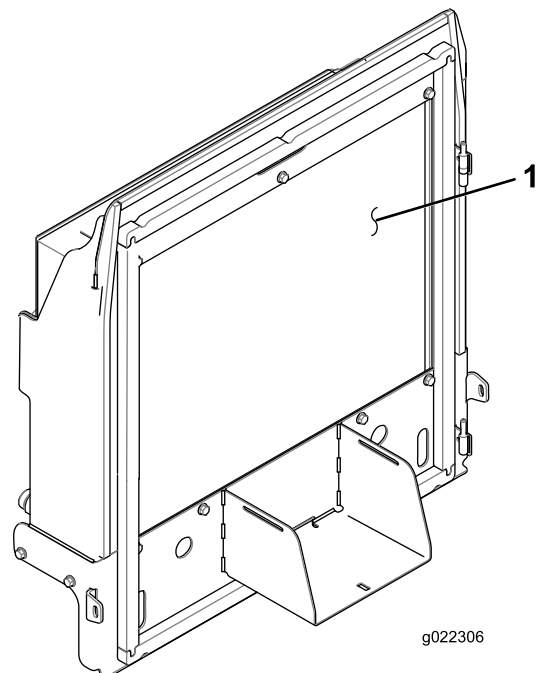

Figure 69
4. Thoroughly clean both sides of the radiator and oil cooler (Figure 69) with compressed air.